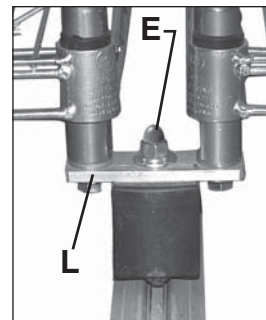
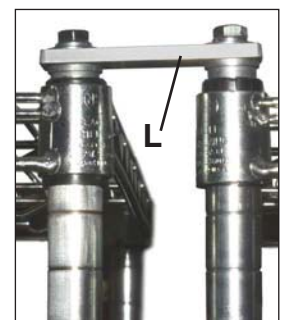

figure 3
figure 3a
Place center tie bar(L) on top of the skate. Align skates(A) top holes with the middle hole in the center tie bar. See "for End Posts" sequence above. Use two 3/8" flat washers(B) with lock washers(C) and a 3/8"-16x1 1/4" bolt(D_{1,25}) and acorn nut(E) to attach center tie bar(L) as shown in *figure 3*. Use a flat head screw driver to start assembly. Repeat on opposite side. Attach wire shelving units to sides of center tie bar on skate (see "Double-Deep Unit" on back page). Use a 3/8" flat washer(B) with lock washer(C) and 3/8"-16x2 bolt(D₂) to screw through center tie bar and into the bottom of the post as show in *figure 3*. Tighten bolts with a ratchet, small extension and 3/8" socket as shown in *figure 2*. Place center tie bar on top of posts and secure using a 3/8" flat washer(B) with lock washer(C) and 3/8"-16x2 bolt(D₂) as shown in *figure 3a*.